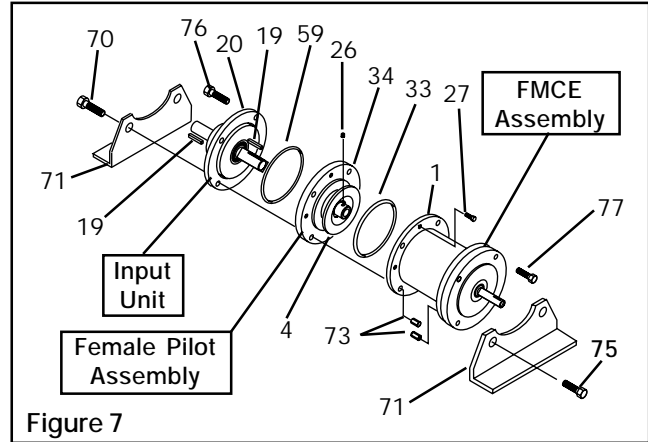

Figure 7
1. Remove the eight Hex. Head Cap Screws (Item 27); then, separate the Female Pilot (Item 34) and Drive Disc (Item 4) from the FMCE Assembly (See Figure 7).
2. Coat the O-ring Seal (Item 59) and the seal contact surface of the Input Unit with a film of O-ring lubricant; then, wipe off any excess lubricant (See Figure 7).
3. Place the O-ring Seal (Item 59) into the seal groove of the Input Unit Bearing Flange (Item 20) (See Figure 7).
5. Tighten the Set Screw (Item 26) to lock the Drive Disc (Item 4) onto the Input Unit shaft (See Figure 7).
6. Coat the O-ring Seal (Item 33) and the seal contact surface with a film of O-ring lubricant, then wipe off any excess lubricant (See Figure 7).
7. Place the O-ring Seal (Item 33) onto the seal diameter of the Female Pilot (Item 34) (See Figure 7).
8. Slide the FMCE Assembly onto the Female Pilot Assembly (See Figure 7).
9. Using eight 10-24 x 0.75" Hex. Head Caps Screws (Item 27), secure the FMCE Assembly to the Female Pilot Assembly (See Figure 7).
10. Alternately and evenly tighten the eight Hex. Head Cap Screws (Item 27) to 2.3 Nm [21 in-lb] torque (See Figure 7).
11. Using two Nexen supplied 0.375-16 x 1.875" Hex. Head Cap Screws (Item 70) and Acorn Nuts (Item 73), secure one optional Mounting Foot (Item 71) to the FMCE Assembly and Input Unit (See Figure 7).
14. Using two Nexen supplied 0.375-16 x 1.25" Hex. Head Cap Screws (Item 75) and Acorn Nuts (Item 73), secure the other optional Mounting Foot to the Male Pilot end of the FMCE Assembly (See Figure 7).